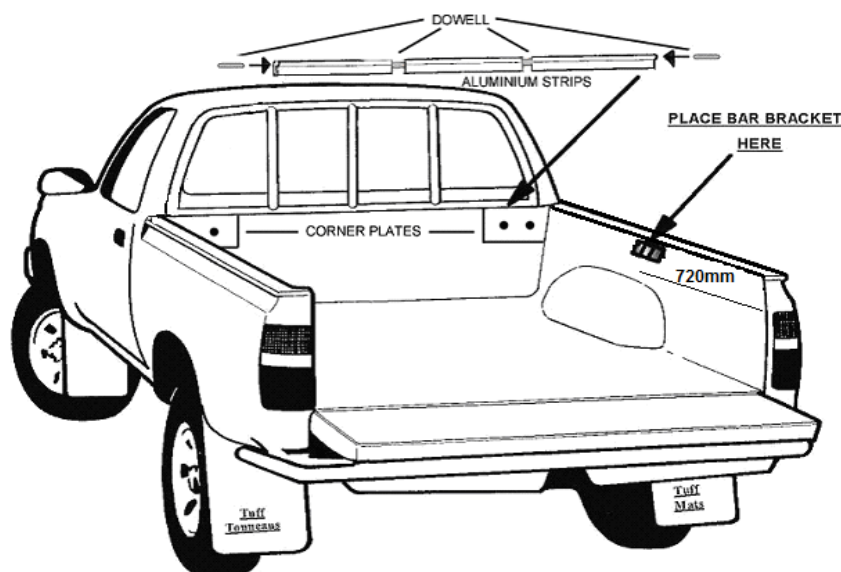

Figure 1
3. Using two pieces of dowel, join the 3 aluminum rope tracks together. Place the other 2 pieces of dowel in the ends of the now joined rope track and sit the end dowels on the seal plates to position the rope track. **See Figure 1.**